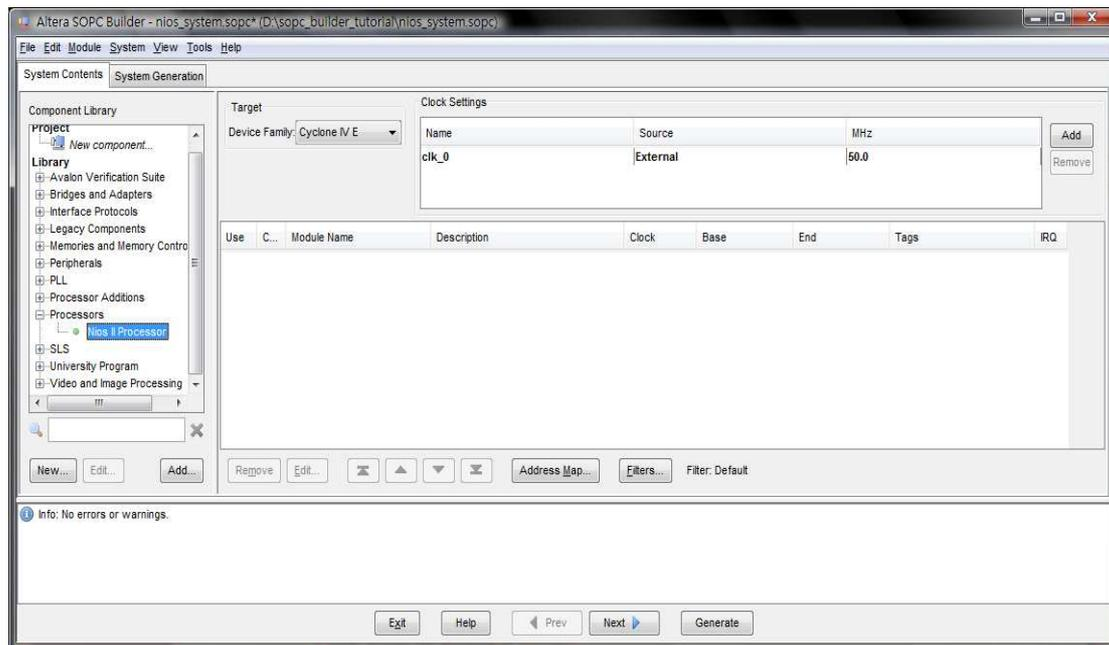
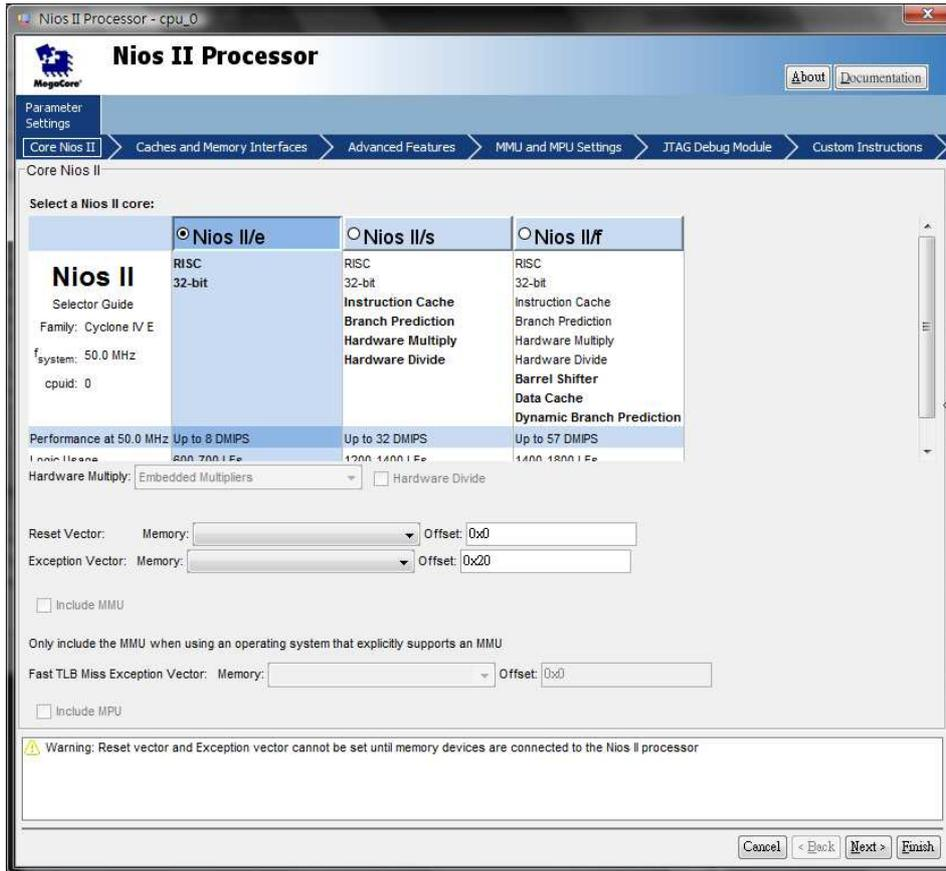
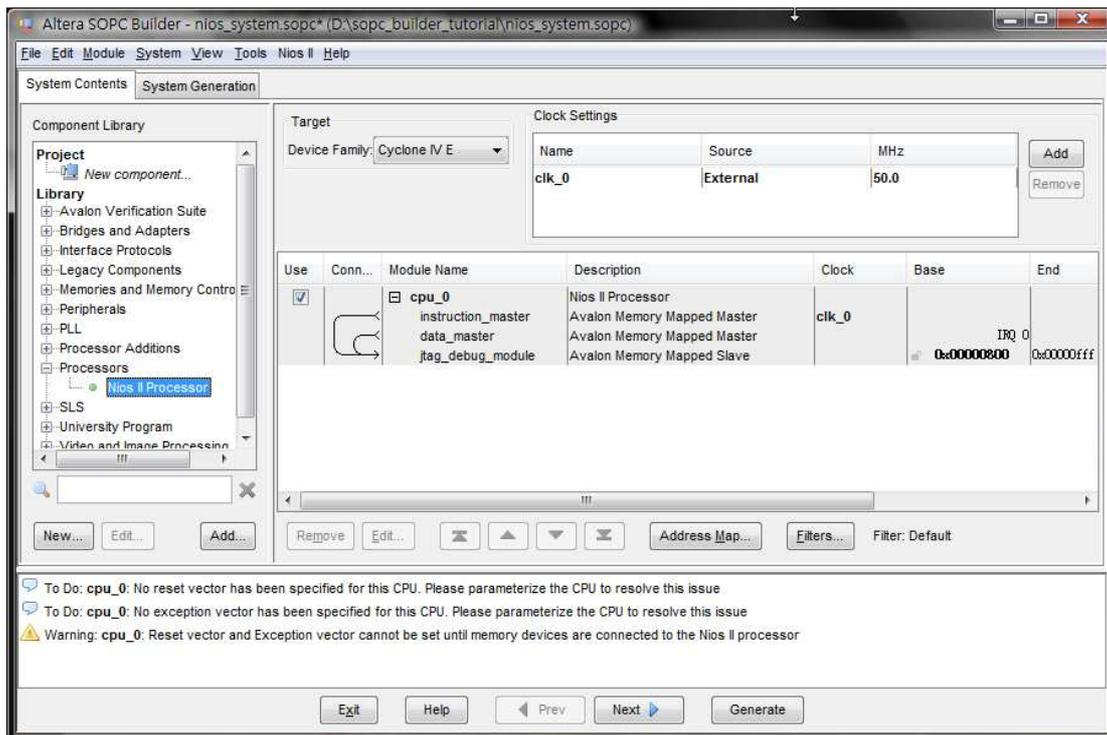

Figure 5. The System Contents tab window.
Figure 6. Create a Nios II processor.
Figure 7. The defined processor.
2. Select **Tools > SOPC Builder**, which leads to the pop-up box in Figure 4. Enter **nios_system** as the system name; this will be the name of the system that the SOPC Builder will generate. Choose Verilog as the target HDL, in which the system module will be specified. Click OK to reach the window in Figure 5.
3. Figure 5 displays the System Contents tab of the SOPC Builder, which is used to add components to the system and configure the selected components to meet the design requirements. The available components are listed on the left side of the window. Before choosing our components, examine the area in the figure labeled Target. Check the setting for the Device Family and ensure that Cyclone IV E is selected.
4. The Nios II processor runs under the control of a clock. For this tutorial we will make use of the 50-MHz clock that is provided on the DE2-115 board. As shown in Figure 5, it is possible to specify the names and frequency of clock signals in the SOPC Builder display.
- On the left side of the window in Figure 5 select **Processors > Nios II Processor** and click Add, which leads to the window in Figure 6.
- Choose **Nios II/e** which is the simplest version of the processor. Click **Finish** to return to the window in Figure 5, which now shows the Nios II processor specified as indicated in Figure 7. There may be some warnings or error messages displayed in the SOPC Builder Messages window (at the bottom of the screen), because some parameters have not yet been specified. Ignore these messages as we will provide the necessary data later.